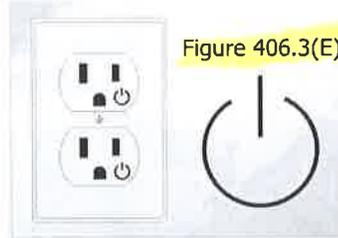

Figure 406.3(E)
### **406.3(E) and Figure 406.3(E) Controlled Receptacle Marking**
- New Figure 406.3(E) was also added displaying “Controlled Receptacle Marking” symbol.
- New exception added to indicate that this marking is not required for receptacle outlets controlled by a wall switch to provide the required room lighting outlet(s) as permitted by 210.70(A)(1) Ex. No. 1.
All nonlocking-type, 125-volt, 15- and 20-ampere receptacles controlled by an automatic control device, energy management, or building automation shall be marked with the "Controlled Receptacle Marking Symbol" from Figure 406.3(E) placed on the controlled receptacle outlet where visible after installation